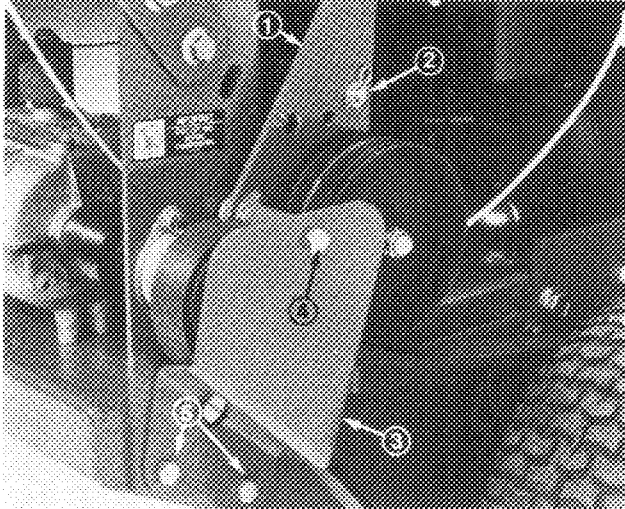

Figure 26
1. Remove top capscrew securing idler support and idler bracket to rear frame (Fig. 26).
2. Loosen bottom two mounting screws enough to allow belt to pass between drive pulley and idler support (Fig. 26).